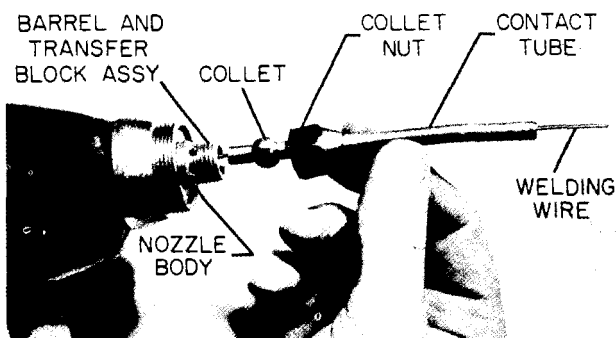

Figure 17. Installing Contact Tube
d. Remove collet nut from Gun barrel (Fig. 17).